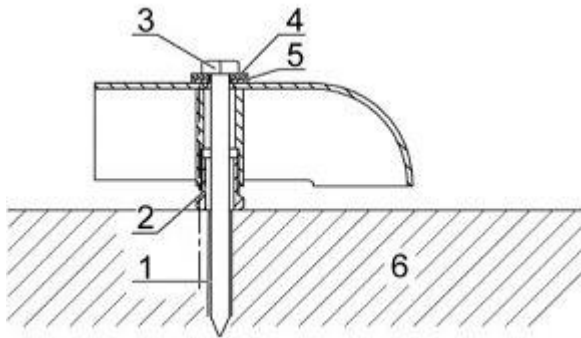

Figure 9 Fixing elements.
- ⇒ Loosely pre-assemble the CHM 15k on the concrete foundation with the supplied washers and fixing screws (see Figure 9)